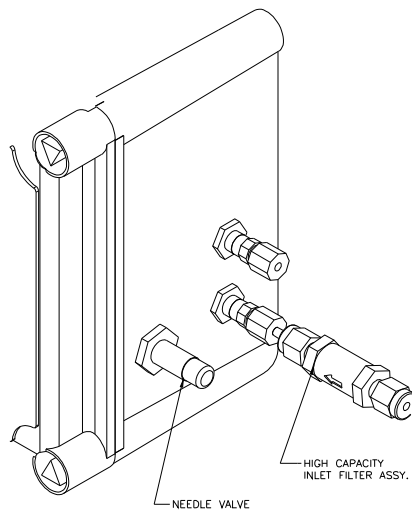

Figure 5. Needle Valve Location
2. See Figure 5. The flow rate is set by adjusting the needle on the 4000TOC Sensor. NOTE: Clockwise (CW) to decrease flow, counterclockwise (CCW) to increase flow.